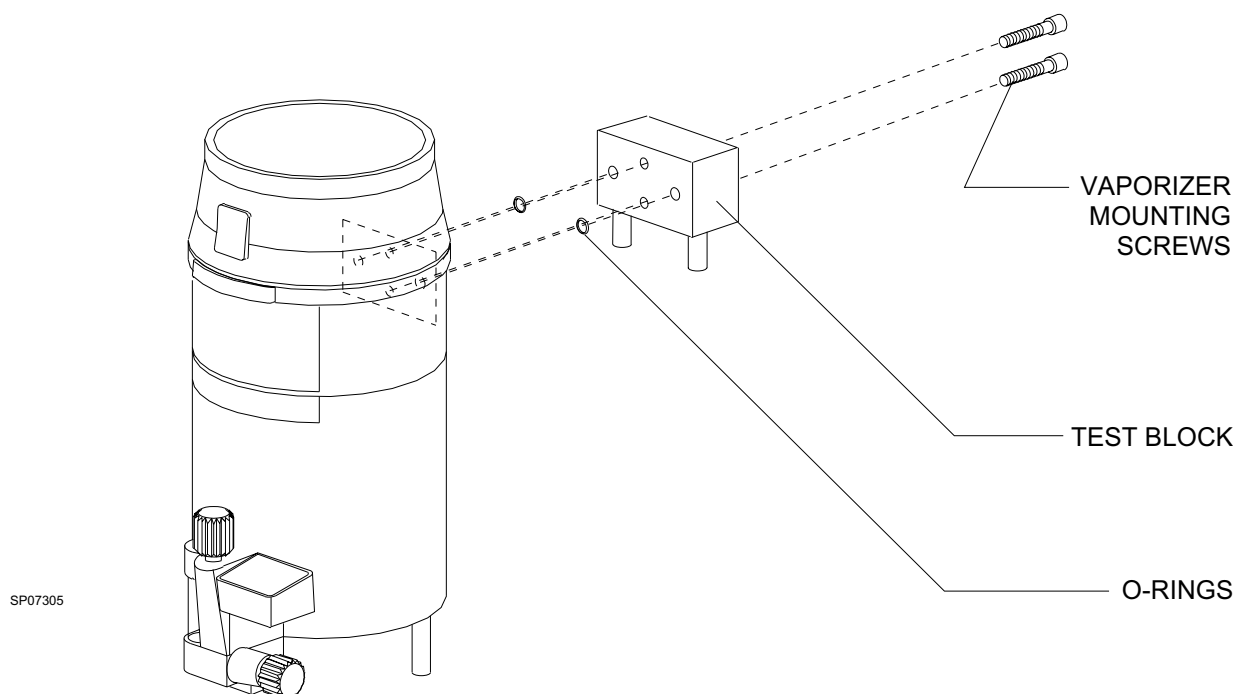

Figure 1: VAPORIZER TEST BLOCK MOUNTING
4. Install the vapor test block onto the vaporizer as shown in Figure 1 using two 4 x 30 metric screws (P/N HW01072) and two O-rings (P/N 2121929).